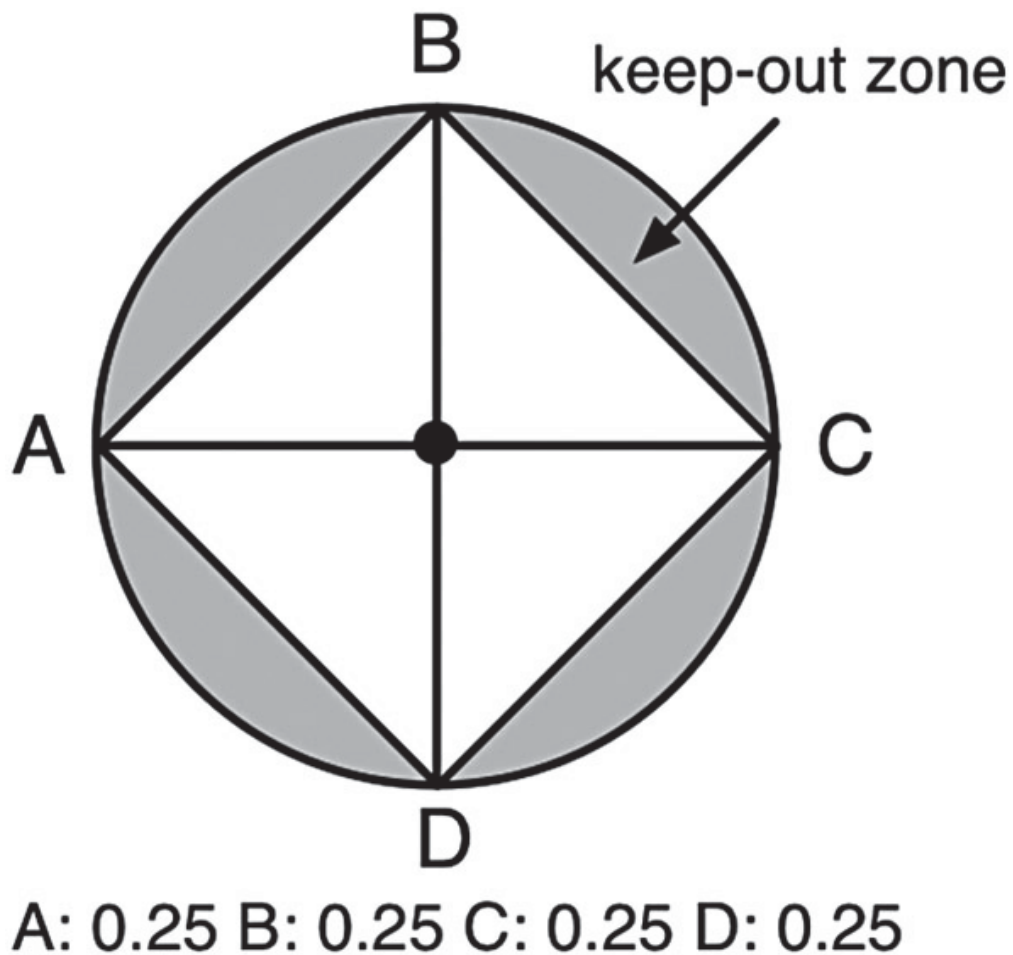

Figure 11.3: The vector joystick with diamond shaped active area and surrounding keep-out zone; with the joystick in
The heart of the original vector synths is a joystick that is used to mix the outputs of four sound sources labeled A, B, C, and D. The joystick operates over a “mixture plane” or “vector plane.” The joystick axes are labeled A-C (x-axis) and B-D (y-axis), as shown in Figure 11.3. If you've used a joystick for surround mixing or an arcade game, you may have used one that rotates in a circle. The Prophet and Wavestation joysticks also move in a circle, but only the central diamond (a square turned on its side) is the active region of operation; the remaining area is a keep-out zone.
- the mix values for the four sources will always add up to 1.0; with the joystick in the center, the mix values are: A:0.25 B:0.25 C:0.25 D:0.25, as shown in Figure 11.3